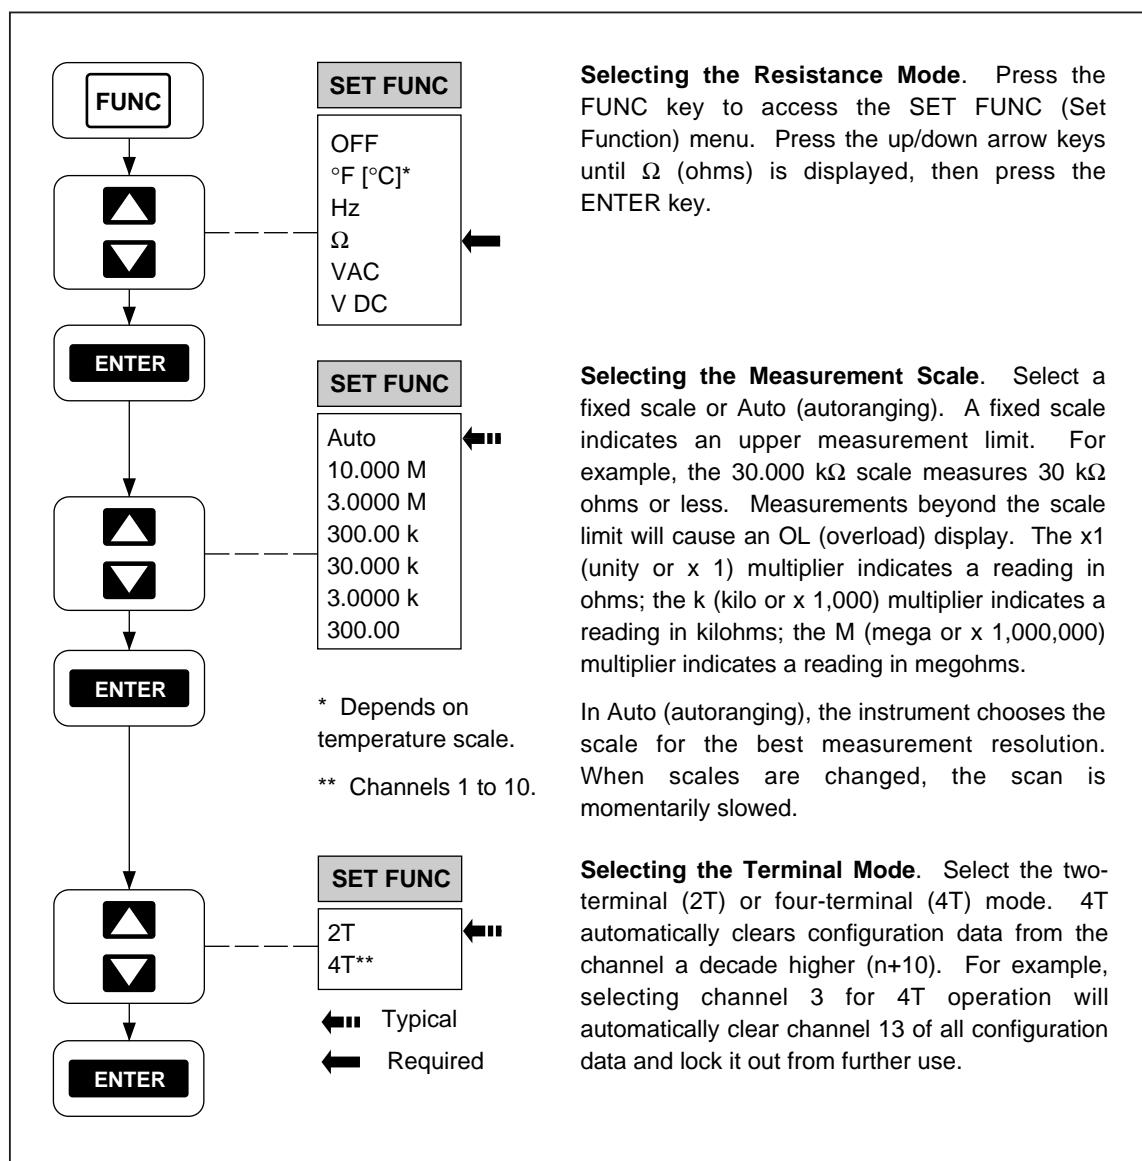

Figure 2-6. Configuring a Channel to Measure Resistance
- Configuring a Channel to Measure Resistance (Figure 2-6)
Perform the procedure in Figure 2-6 to configure a channel for measuring resistance. In preparation, the instrument must be in the inactive mode (not scanning or monitoring) and the desired channel must be selected (see Figure 2-3). To exit at any time (changes not saved), press the **CANCL** key.